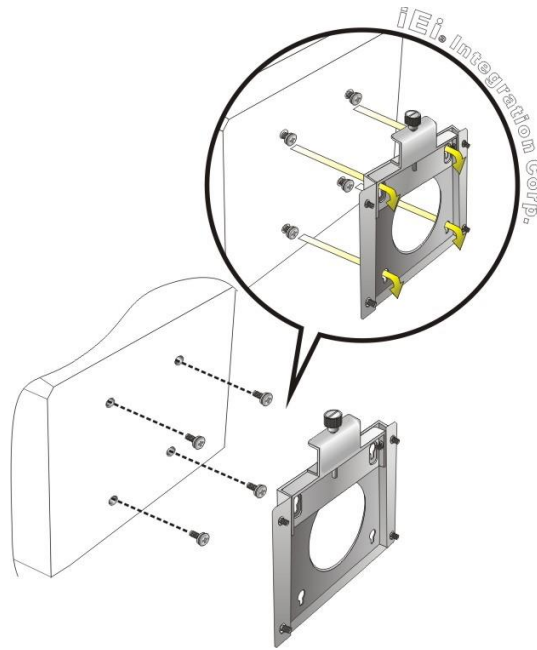

Figure 3-39: Hook Onto Wall Mounting Kit
- Step 2:** Screw the mounting screws to the mounting holes on the rear of the DM-F series (Figure 3-39).
- Step 3:** Hook the DM-F series into the mounting holes on the wall mounting kit (Figure 3-39).